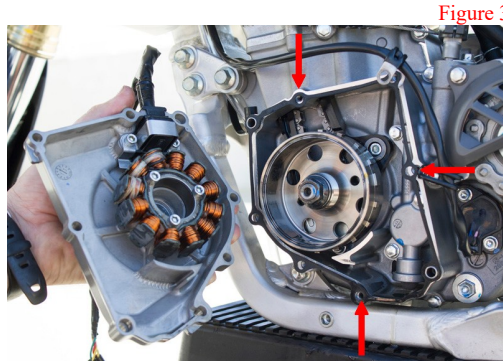

Figure 3
- Remove stock ignition cover and gasket. (Pay attention to three oil passage bolt positions. They must be returned to their original location when Hinson ignition cover is reinstalled or oil leaks will occur.) (See Figure 3)